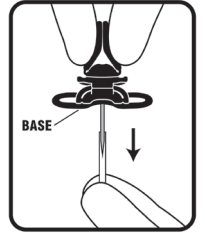

Figure 2
4. Remove needle guard (Fig. 2).